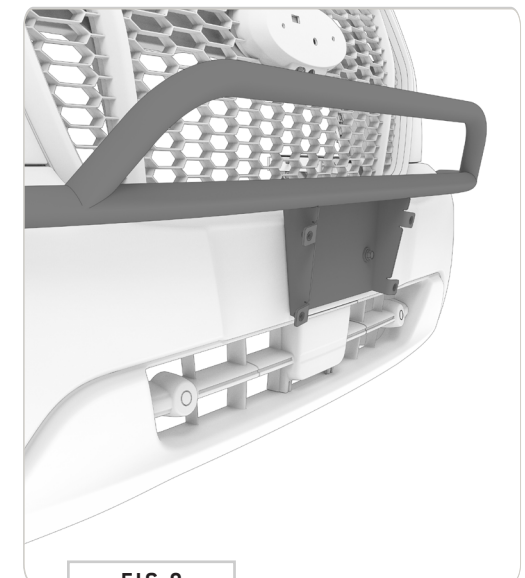

FIG 8
2.3 Tighten Fasteners: Tighten the bolts down to secure the **Nudge Bar** to the bumper using a **13MM Socket** (FIG 8).